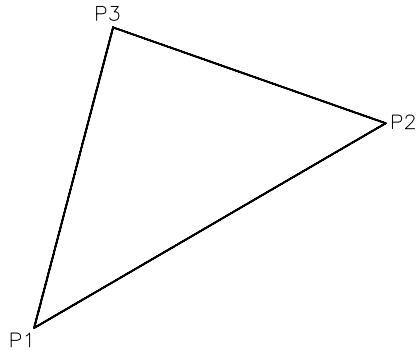
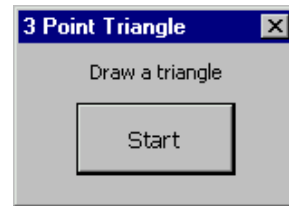

Figure 34-13 Triangle with user-defined points
Figure 34-14 User Interface Form for Example 2
Write a program that will draw a triangle with user supplied vertices P1, P2, and P3 as in Figure 34-13. This program is to use the **GetPoint** and **AddLine** methods. The User Interface Form for this example is shown in Figure 34-14.
5. Drag and insert the **Command** button from the toolbar to the UserForm with the mouse to produce an interface form similar to Figure 34-14.